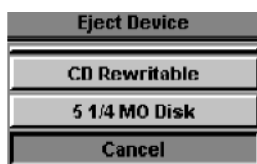

Figure 4-9 Eject Device Menu
Press **<Alt> + E** on the alphanumeric keyboard to display the Eject Device menu (Figure 4-9).
6.) Press **<Alt> + E** on the alphanumeric keyboard to display the Eject Device menu (Figure 4-9 on page 4-13)